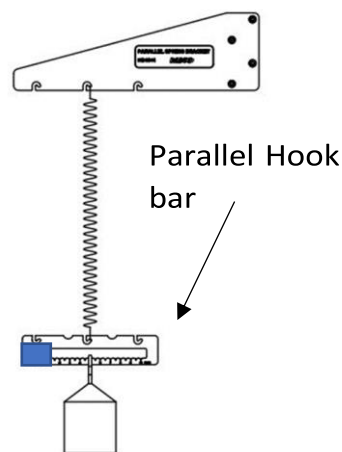

Figure 4 – Dynamic Single Spring Setup
- Hang the Parallel Hook Bar from the center slot on the bottom of the spring as shown in Figure 4, the taped side will be used to break the beam of the photogate in measurements.